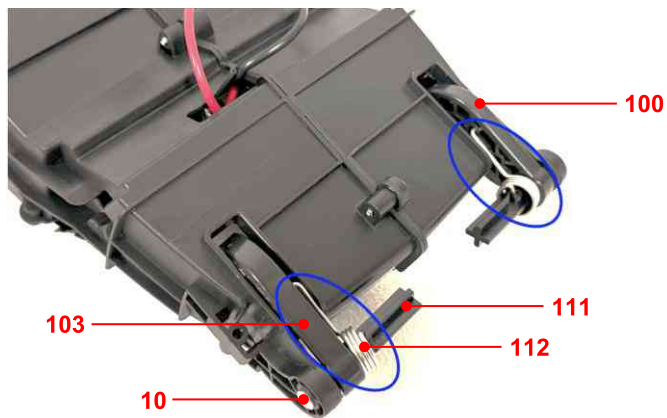

Fig. 12
- If necessary, remove the self-tapping screws ST4.2*16-F (10) with the support lug axles (111) and torsion springs (112). Replace the support lugs (100, 103) with the new ones of the same type. Ensure that the torsion springs are properly engaged in place when assembling the support lugs and axles (Fig. 12).